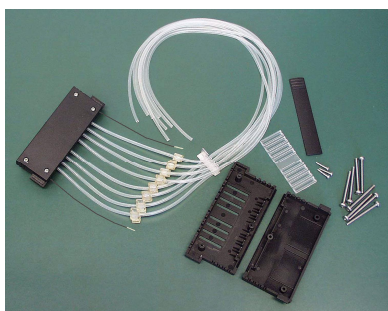

Figure 5–41. Parts belonging to the upper part of the dispensing cassette
7. Place the plastic sight window with the grooves pointing upwards onto the bottom cover of the upper part of the dispensing cassette, if it is not already there (Figure 5–42).